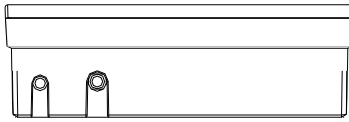

Figure 12: Bottom View
The LN-Display controller also has a built-in network jack (1/8 in. [3.5 mm] mono male audio jack) that can be used to connect to the LONWORKS network. This network jack is located on the bottom of the device (Figure 12).
2. **Service Pin:** Press the Service Pin on the device to broadcast the Neuron ID on the LONWORKS network. The Service Pin on the Scheduler is located on the bottom right of the device (Figure 12). The Display device may have multiple methods for broadcasting the Neuron ID over the network depending on the revision level of the actual controller. The revision number is located on the printed circuit board, inside the casing.